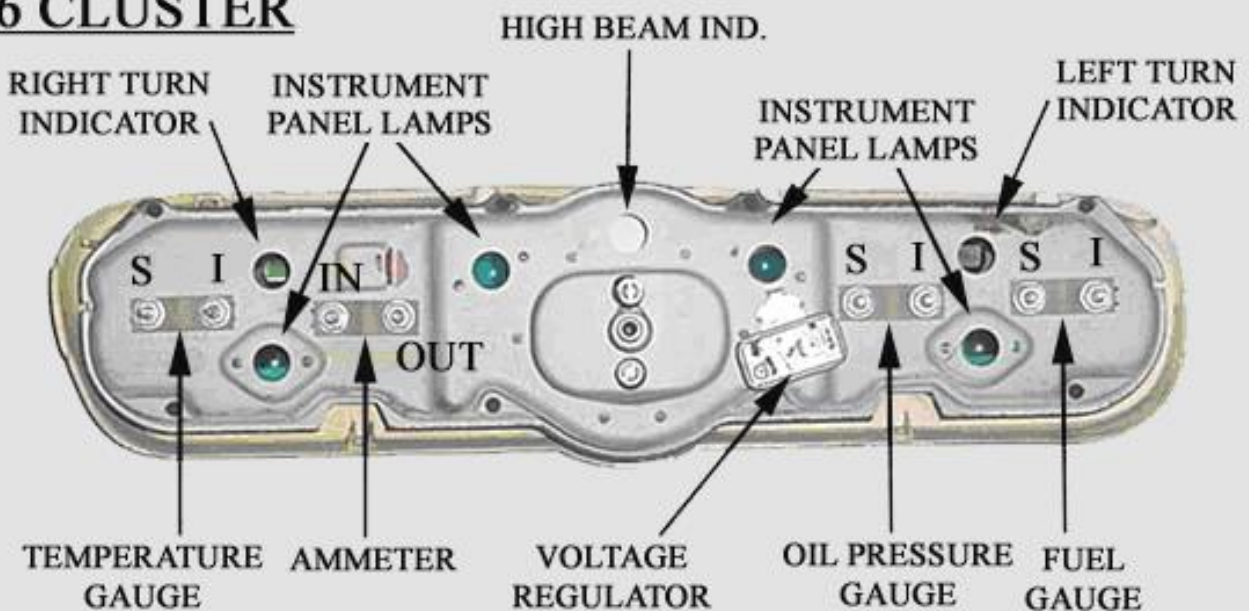

Figure 20 1966 instrument Panel
- 1966 Clusters have an Ammeter, locate the un-numbered red and yellow wires labeled "Ammeter". Connect the un-numbered red wire to the "IN" post and yellow wire to the "OUT" post as shown in **Figure 20**.